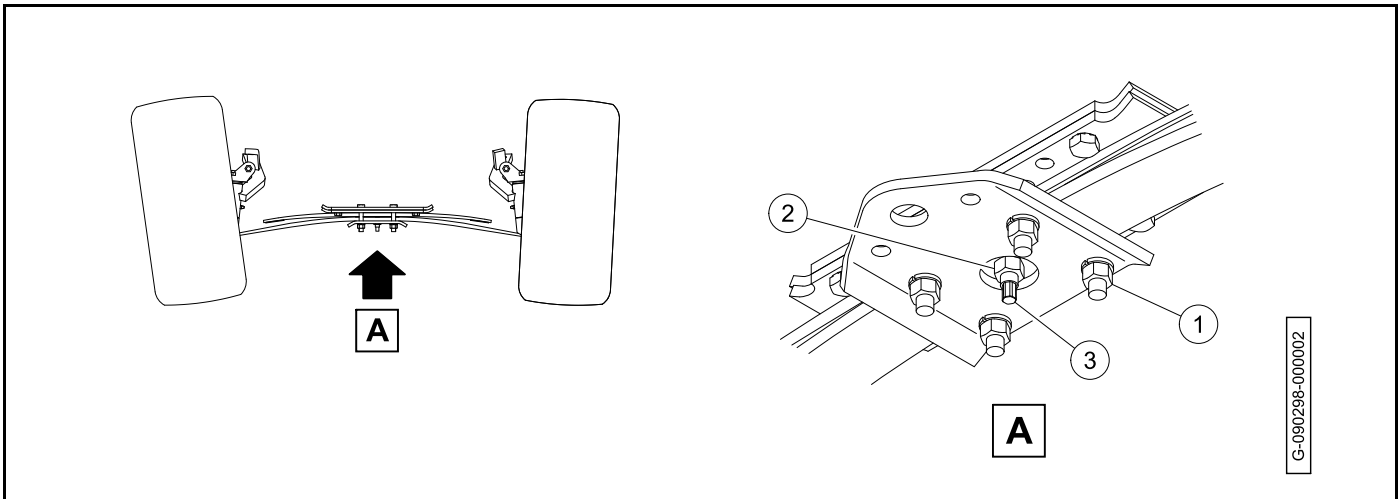

Figure 7-10 Adjust Camber
4. Loosen the four bolts (1). Do not remove the bolts (**Figure 7-10**).